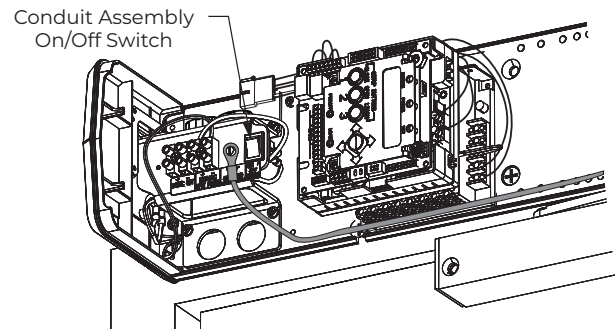

Fig. 8 Union Assembly and Spacer not shown
1. Turn On/Off switch to OFF position on conduit assembly. (Fig. 8)